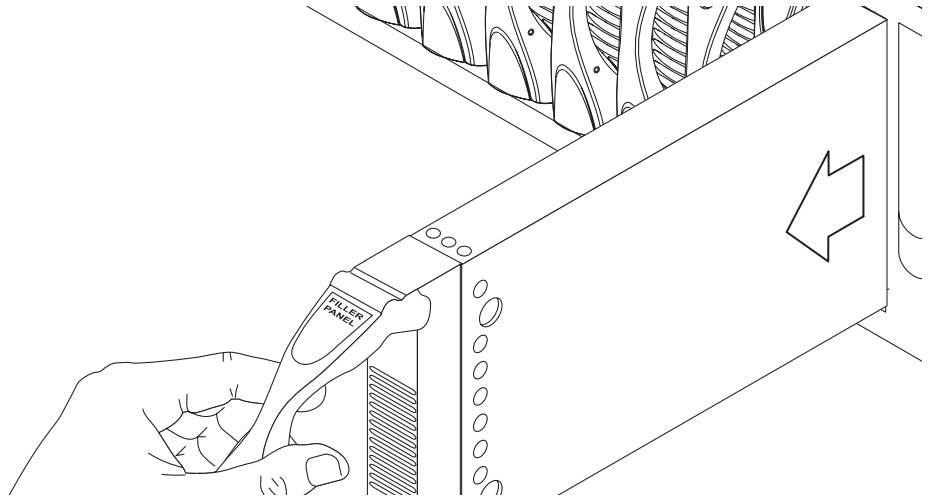

FIGURE 2-3 Removing the Filler Panel
3. Pull the lever to remove the filler panel from the Sun Fire B1600 blade chassis (FIGURE 2-3).